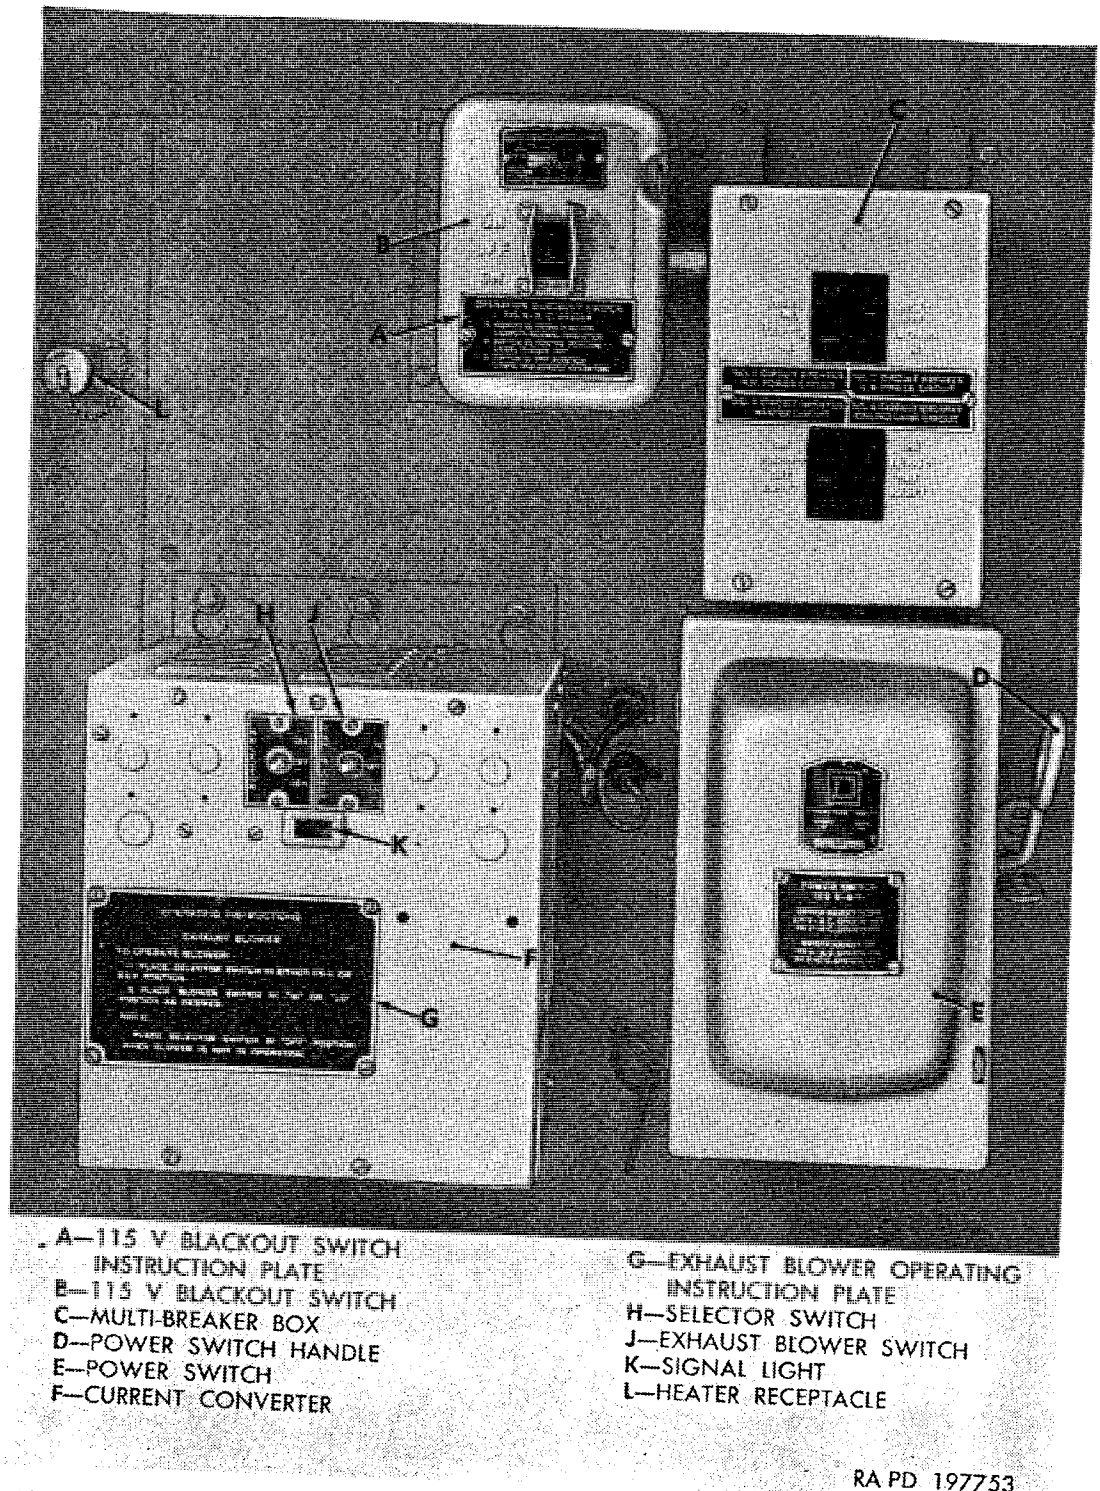

Figure 68. 115-volt light switch, multibreaker box, power switchbox, and current converter mounted.
- (2) Power switch handle (D, fig. 68) must be pushed up. Auxiliary equipment can then be operated on 115-volt ac current.